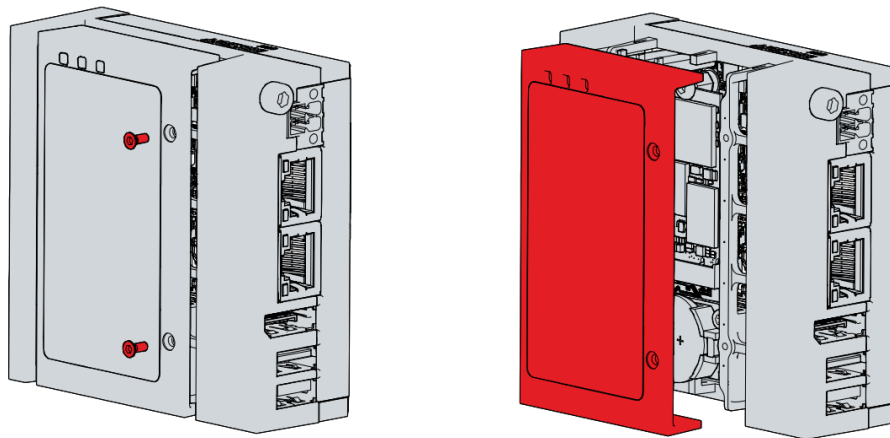
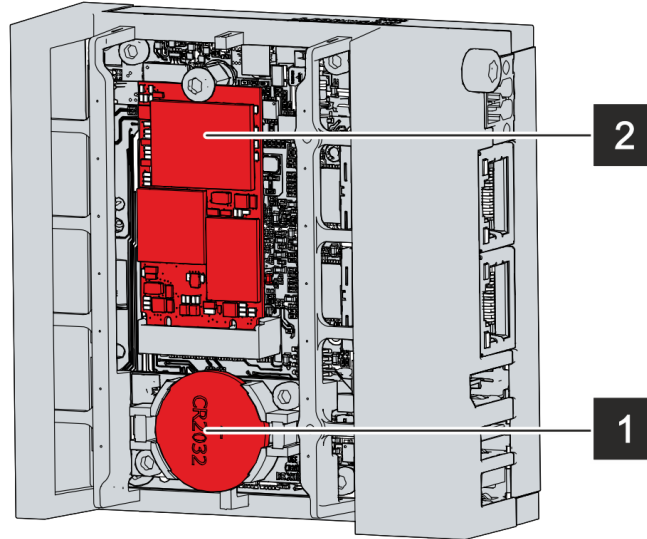

Figure 112. Access to battery and storage media
Figure 113. Battery (1) and Storage Media (2)
1. Before working on the PLC establish electrostatic discharge (ESD) protection to prevent damage to the device through electrostatic discharge. The replacement of device components without ESD protection can lead to functional impairment and destruction of the device. To gain access to the battery and the storage medium remove the cover on the left-hand side of the device by removing the two Torx TX6 screws as shown in **Figure 112**. With the cover removed the battery and storage media are shown in **Figure 113**.